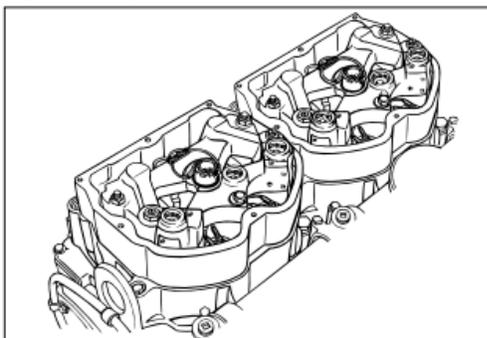

FIG. 16
3. Install the three Jacobs' spacers on the valve cover base (see Fig. 16, only 2 shown for clarity).